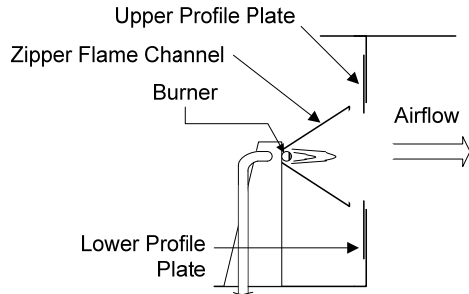

Figure 7 - Burner Assembly
9. With the Gas Modulating Control Valve set to minimum, light the main burner by gradually opening the Main Burner Gas Shut-off valve. Adjust the Main Gas Regulator to provide the desired outlet pressure. A good minimum fire should provide a uniform blue flame across the entire burner, which is contained within the zipper flame channel (see Figure 7).